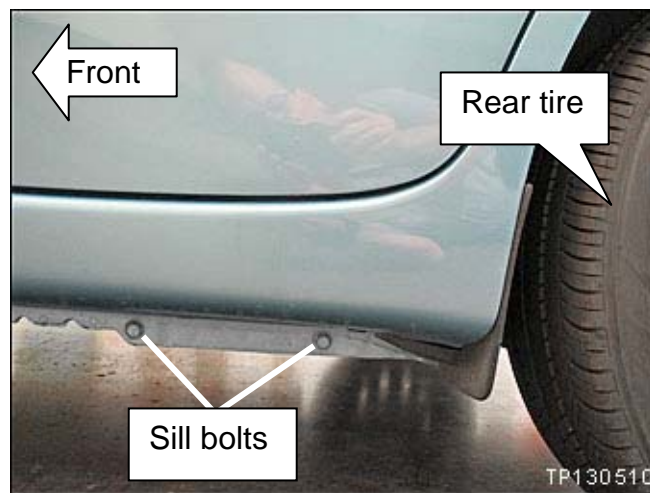

Figure 1
2. Locate the 2 lower body sill bolts on the left or right side (see Figure 1).